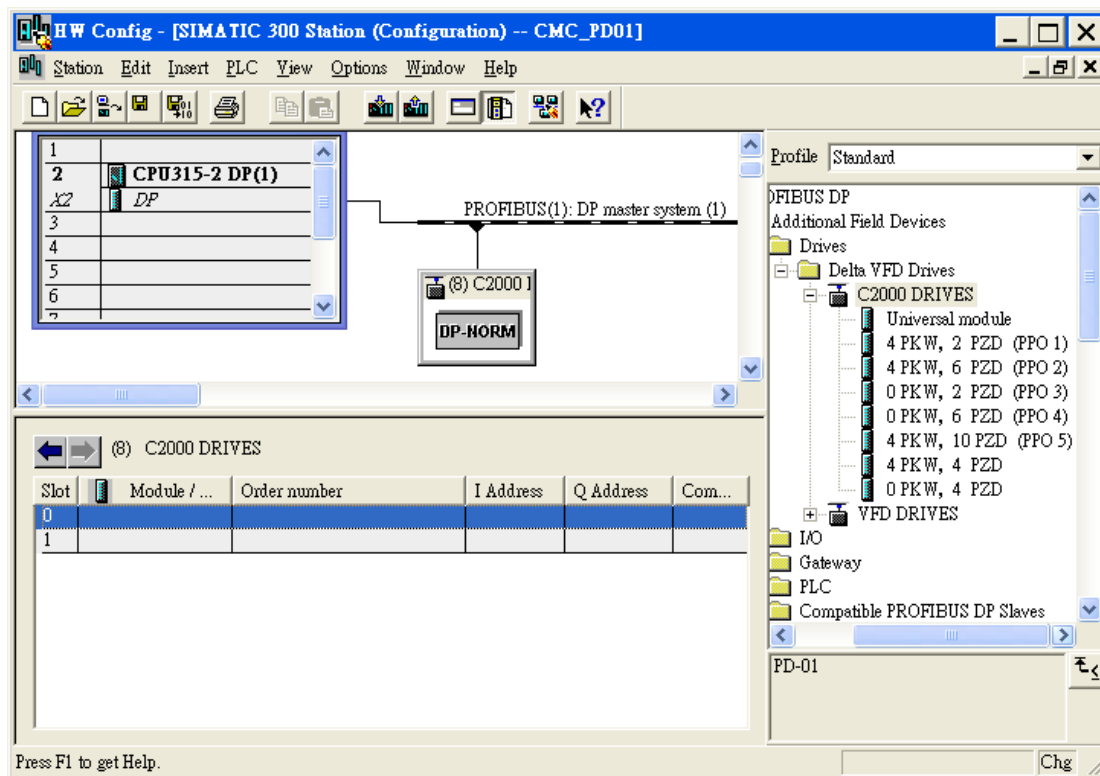

Figure 7-23
4. Select Slot 0 and double click "4PKW 4PZD" in the right-hand side column. See Figure 7-23.